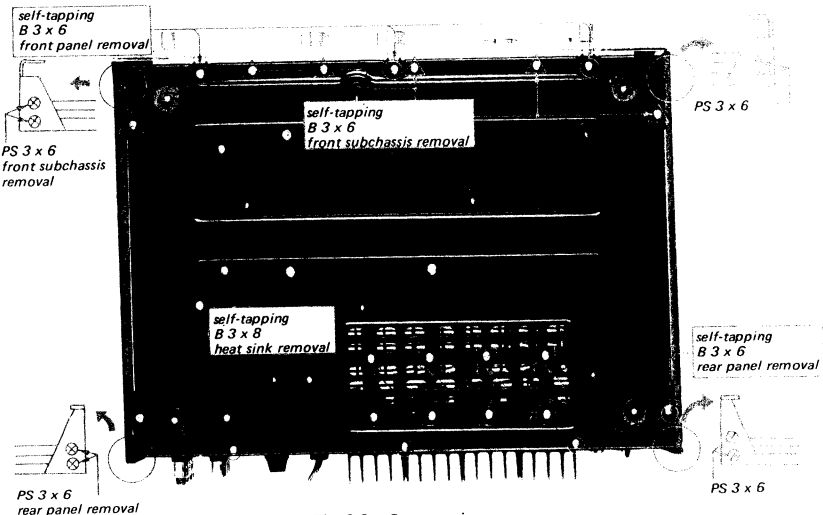

Fig. 2-2. Bottom view
1. Remove the six screws from the bottom and two screws at both sides of the chassis as shown in Fig. 2-2. This frees the front subchassis.
1. Remove the five screws at rear bottom and two screws at both sides of the chassis as shown in Fig. 2-2. This frees the rear panel.
1. Remove the heat sink on which the defective power transistor is mounted by taking out the screws as required shown in Fig. 2-2.